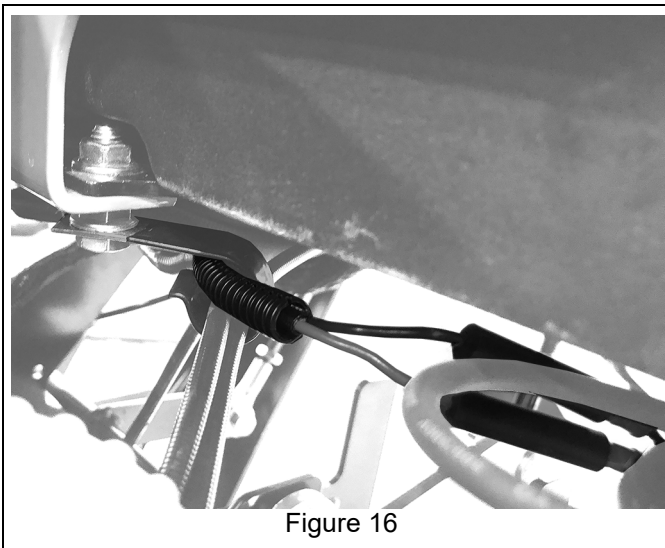

Figure 16
12. Position light harness (item 4) behind the engine.
13. Connect left headlight bullet connectors to long harness wire. Connect red to red and black to black. Retain harness in left J-clamp (item 8). See Figure 16.